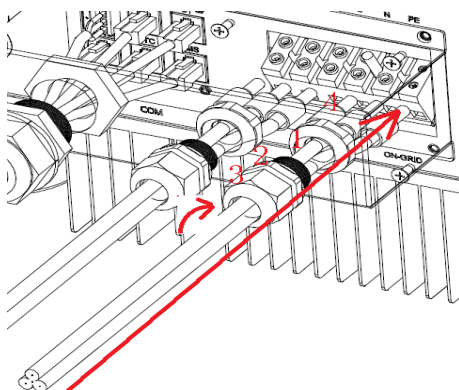

Fig. 6.3.1.1
- ① Make sure that the AC circuit breaker has been disconnected.
- ② According to the wire diameter in Table 6.2, select the L (red/brown), N (black/blue) and PE (yellow-green) cables with appropriate wire diameter, strip off 5 mm insulation layer and route the cables through the waterproof cover and waterproof terminal as shown in Fig. 6.3.1:
- ③ Fix the waterproof terminal on the waterproof cover. In Fig.6.3.1.1, route 2 through the waterproof cover and tighten 1.